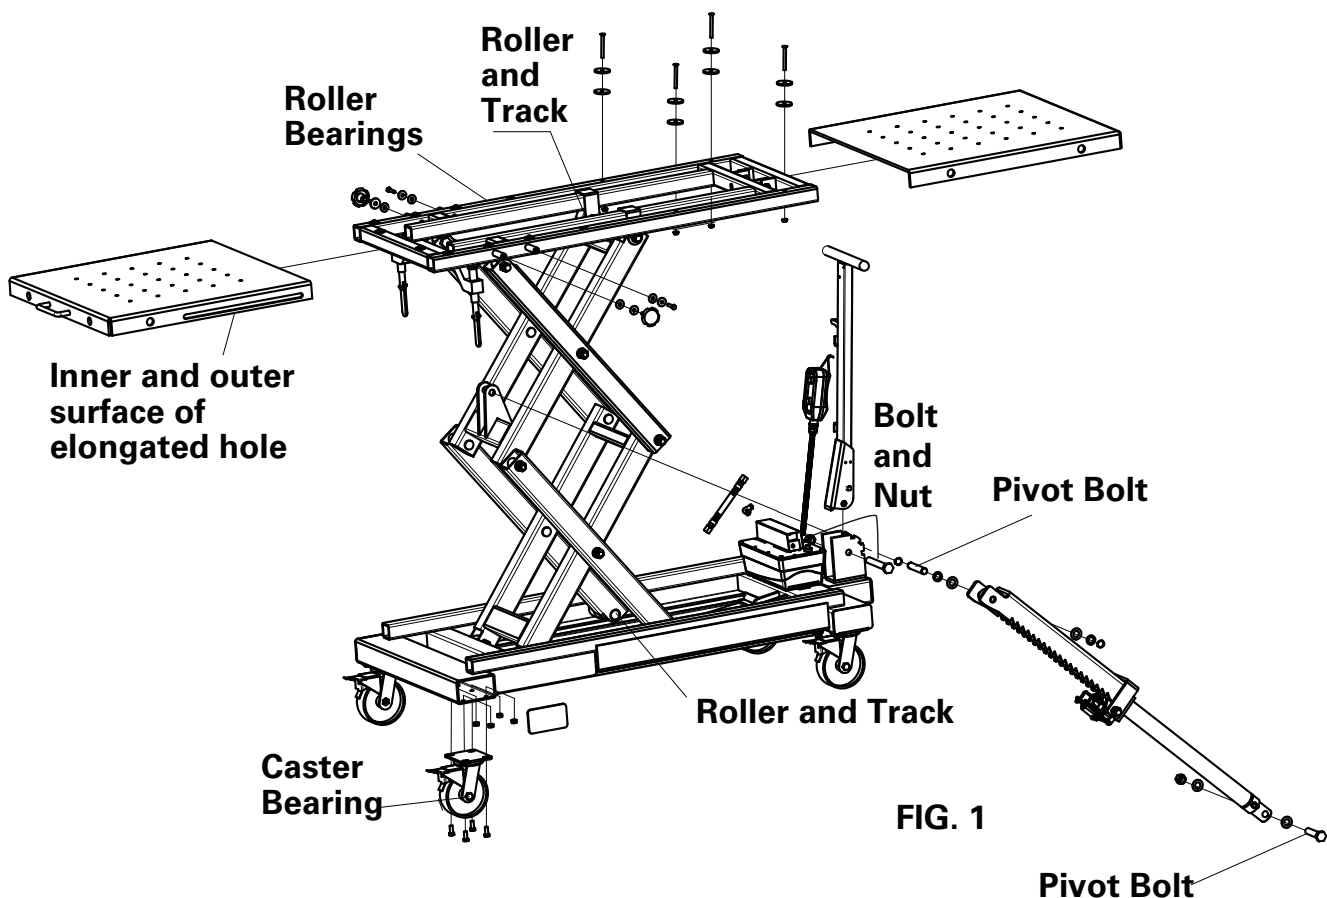

FIG. 1
6. A general purpose lithium base grease (only) must be used in order to prevent premature wearing of parts and guarantee smooth operation. Areas of lubrication are found in Figure 1. Worn parts resulting from the use of improper grease, inadequate or no lubrication are not eligible for warranty consideration.